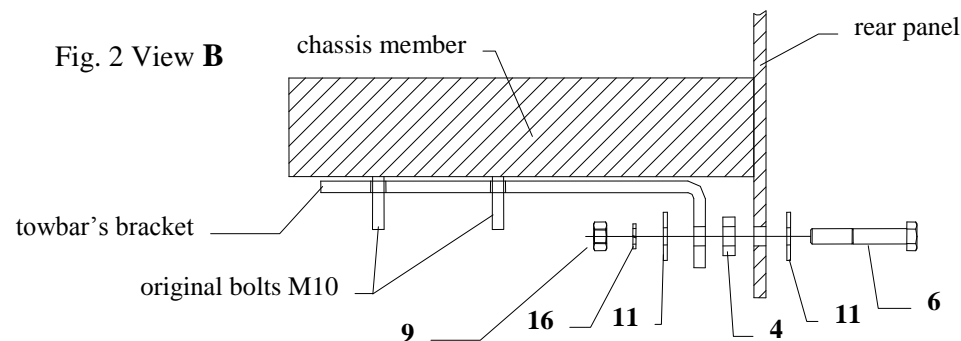

Fig. 2 View B
3. Slip main bar (pos. 1) under bumper – pull lit back, next holes pos. A put on bolts M10 protruding from chassis members and fix it using nuts M10 and big washers (pos. 10) from towbar accessories.
4. In places of original bolts M8 fix bolts M8x50mm (pos. 6) and next from inside fix it by nuts, remember about big washers (pos. 11)
5. In the event of last bolt on left side, the way of mounting show fig. 2.
6. Fix tow-ball (pos. 2) using bolts M12x70mm from accessories.
7. Fix the socket plate (pos. 3) as shown on the drawing.